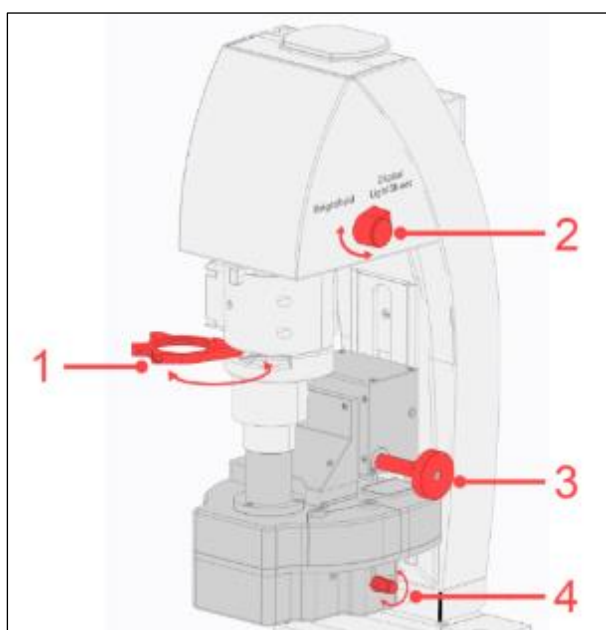

Figure 87: Adjusting DLS components
5. Swing out the BF lens (brightfield) (Figure 87, position 1).
8. Turn the knob to the Digital LightSheet position (Figure 87, position 2).
11. Carefully rotate the objective holder down using the setscrew (Figure 87, position 3) until the desired height is reached. This is the case if the mirrors dip into the mountant surrounding the specimen.
14. Use the setscrew (Figure 87, position 4) to turn the detection objective until both mirrors are horizontal at the same height.